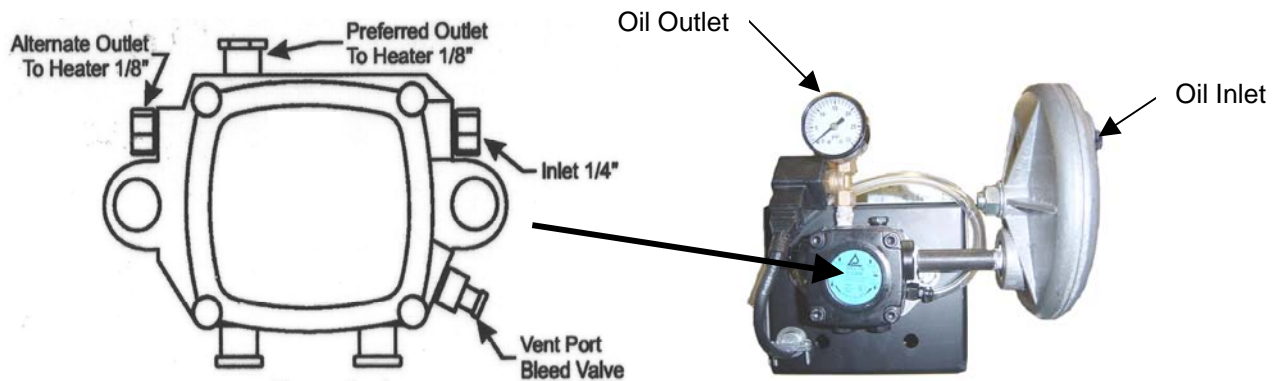

Figure 29 –Oil Pump Diagram
3. Priming the oil pump: Open bleeder valve one turn until all air is expelled (Figure 29). This may need to be done twice to insure all air is removed. **IMPORTANT:** When fully purged and flame is established remove temporarily jumpers on "F" and "T" terminals of the Oil Primary to allow safety features of the unit to operate properly.